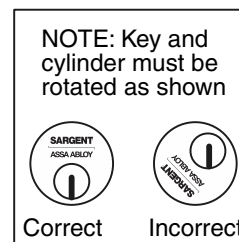

Figure 13
**CYLINDER MUST BE ORIENTED CORRECTLY. (FIGURE 13)**